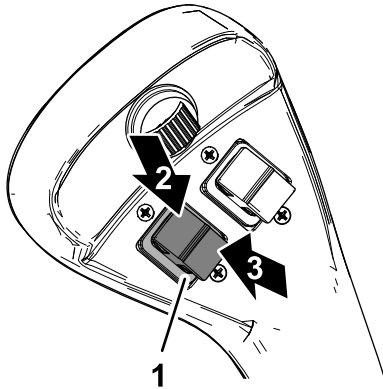

Figure 13
- Press and hold the hydraulic-attachment switch up to operate a hydraulic attachment in the forward hydraulic-flow direction (Figure 13).